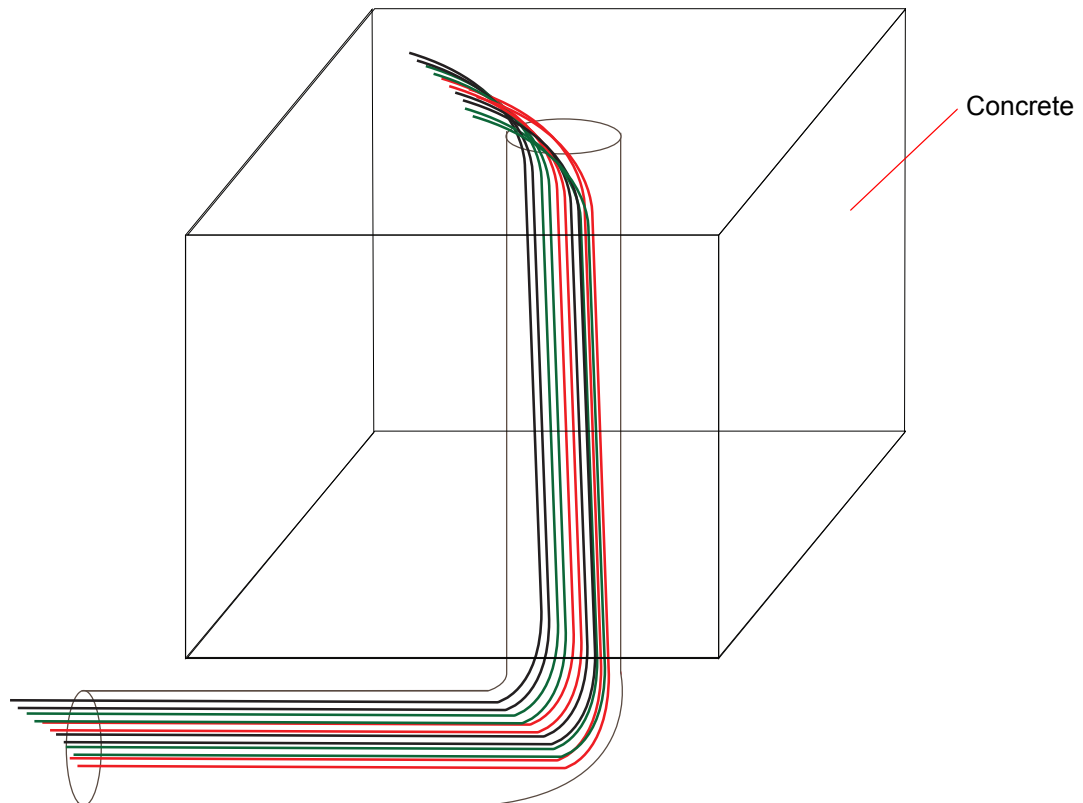

Figure 3. Concrete Base with Conduit and Wiring
1. Dig a hole a minimum of 12 in. H x 12 in. W x 12 in. D in which to pour a concrete foundation for the pole. Optionally, prepare a concrete form in the hole to contain and form the concrete. Insert the conduit into the center of the hole and route a minimum of five feet of the necessary electrical wires through it (Figure 3). For more information about wiring, please see “QuadZilla Electrical Wiring Instructions” (page 10).